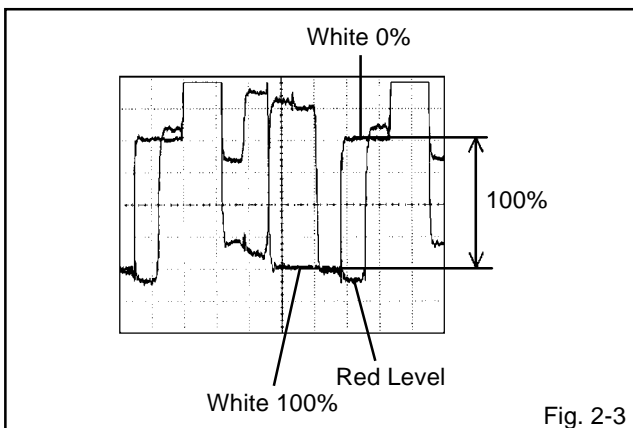

Fig. 2-3
6. Press the VOL. UP/DOWN button on the remote control until the red color level is adjusted to $110 \pm 10\%$ of the white level. (**Refer to Fig. 2-3**)